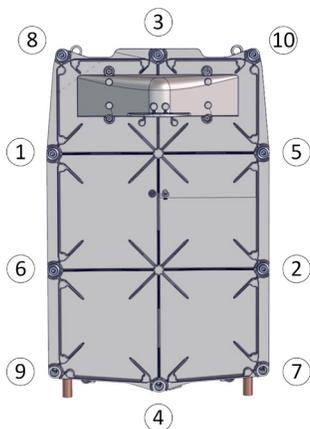

Figure 33: Tighten hex bolts in cross pattern direction.
2. Place the heat exchanger cover onto the heat exchanger and loosely install the 6mm hex bolts and lock washers removed in step 6. Tighten the 6mm hex bolts in a cross pattern as shown in the Figure 33.